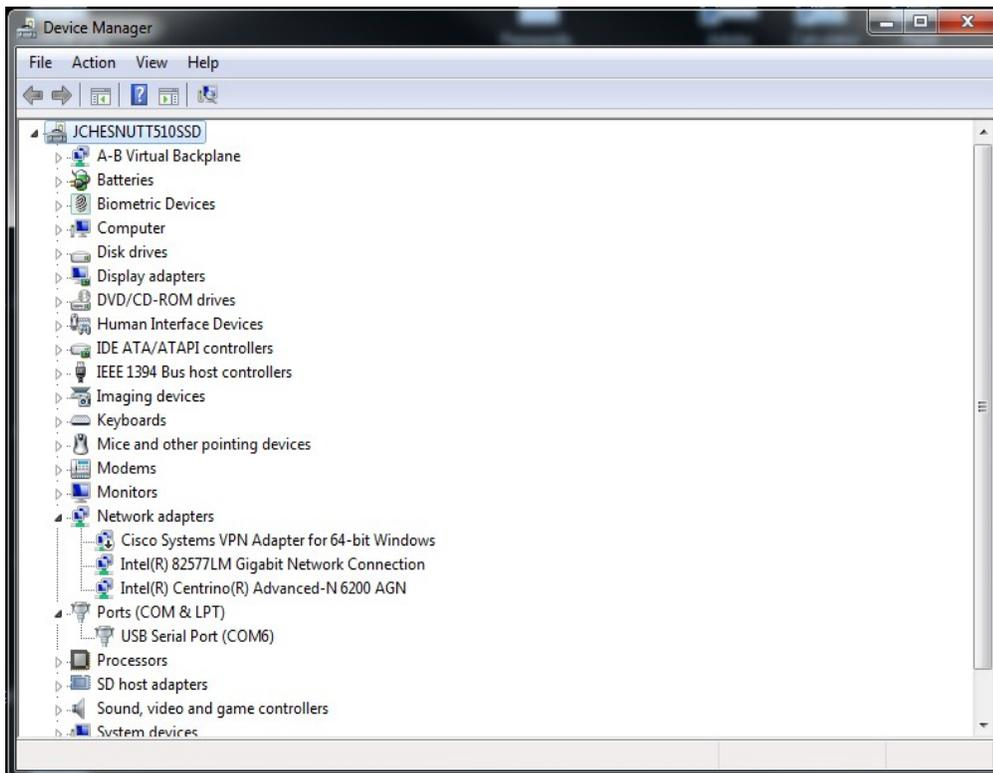

Figure 1
- 2.) Most computers do not have serial ports anymore. If you do have a serial port, then you can skip this step. Otherwise, plug in the USB to Serial Adapter. In the lower left-hand corner of the desktop it should say that new hardware is found, and it is installing the driver. If your converter requires special software, then install that software before proceeding. Allow plenty of time for the driver to install. Assuming that driver is installed correctly, then it should setup a COM port on the PC. It is best to verify this. Click on Start, Control Panel, System and Security, System, Device Manager. Under Ports (COM & LPT) you should see a COM port for the adapter. In this example the adapter is using COM6. See Figure 1.